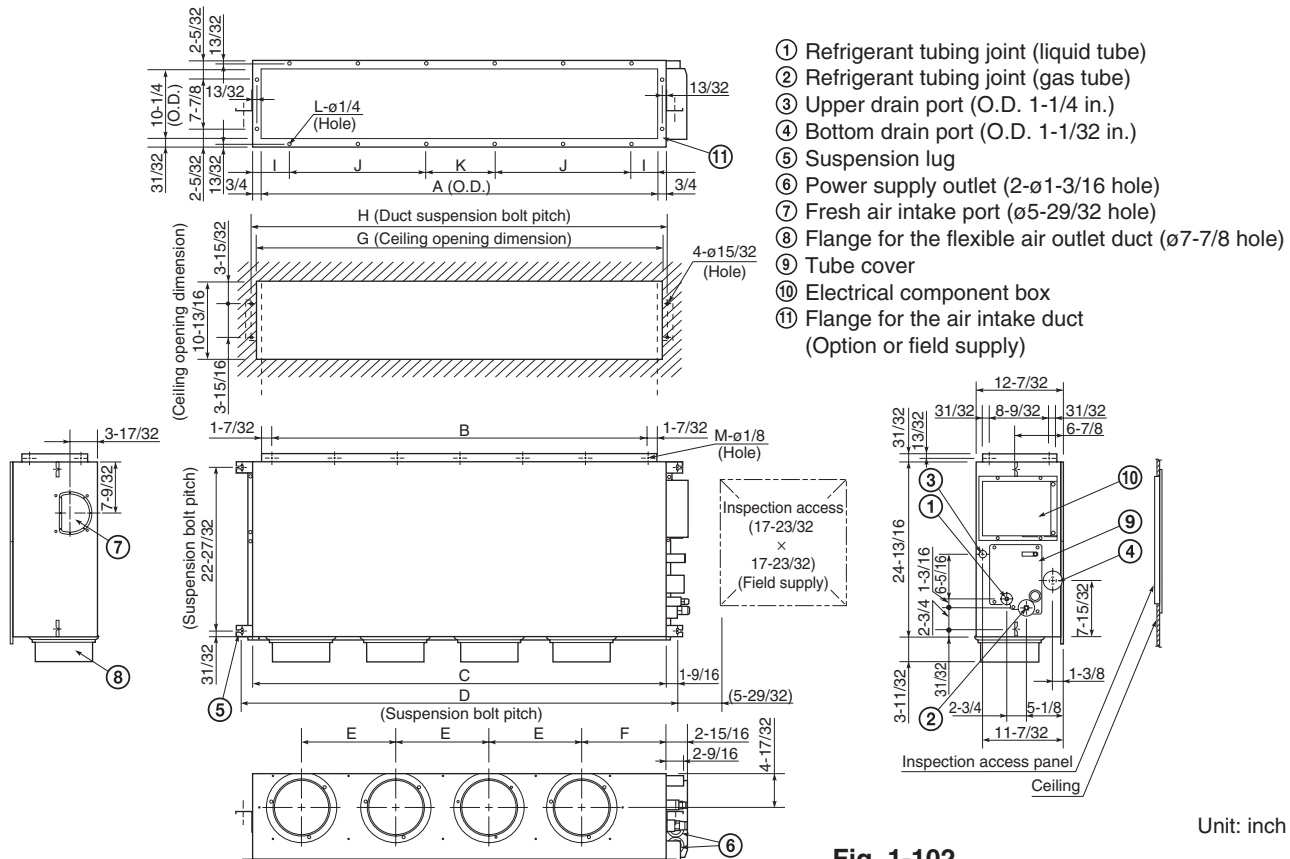

Fig. 1-102
- Fig. 1-102 and Table 1-12 show the detailed dimensions of the indoor unit.
- (1) When placing the unit inside the ceiling, determine the pitch of the suspension bolts referring to the dimensional data on the previous page. (Fig. 1-102)